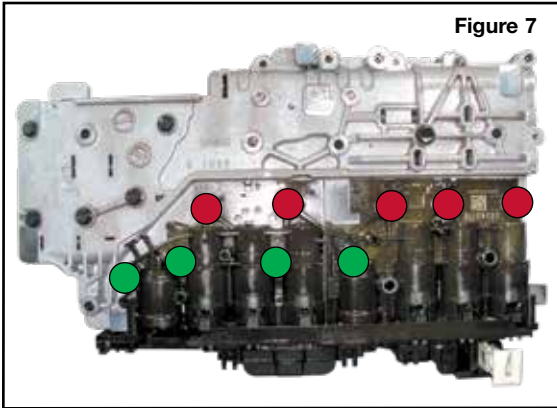

Figure 7
- Remove the four 10mm head and five 7mm head bolts (Figure 7). Remove the TEHCM and set aside for inspection, testing and cleaning.
- Install the four 10mm head and five 7mm head bolts and *hand-tighten only* (Figure 7).